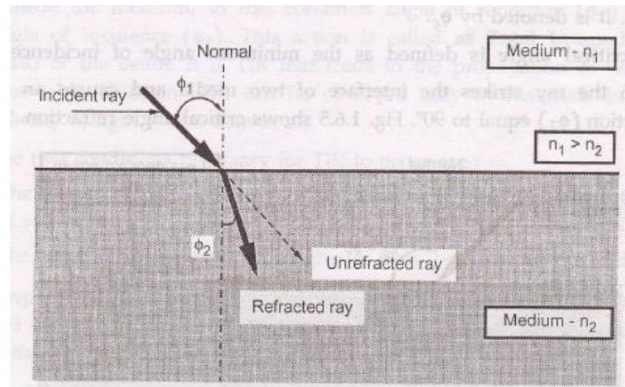

Fig 1.6.4 Refractive model for Snells Law
- A refractive index model for Snell's law is shown in Fig. 1.6.4.